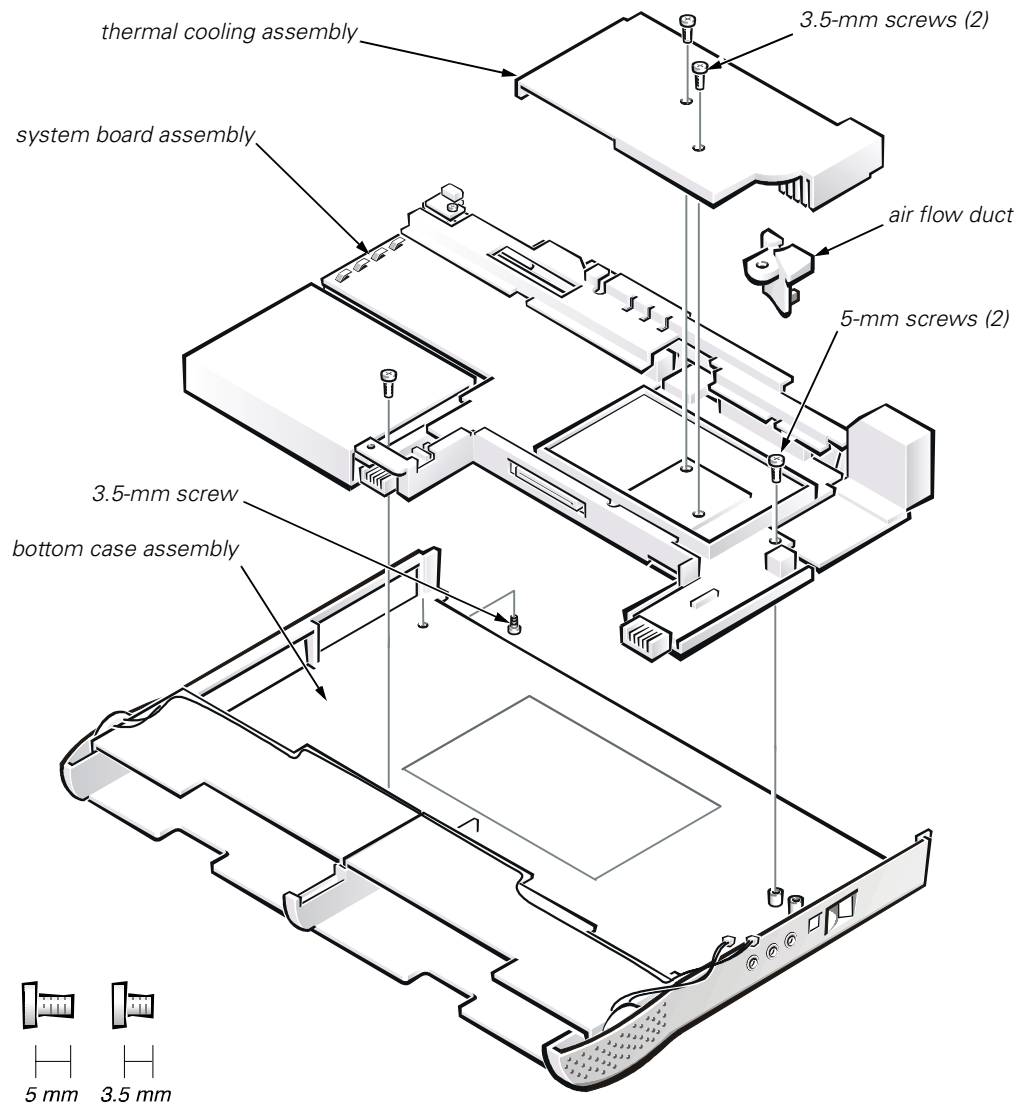

Figure 26. System Board Assembly Removal
12. Remove the following two screws from the system board assembly (see Figure 26):